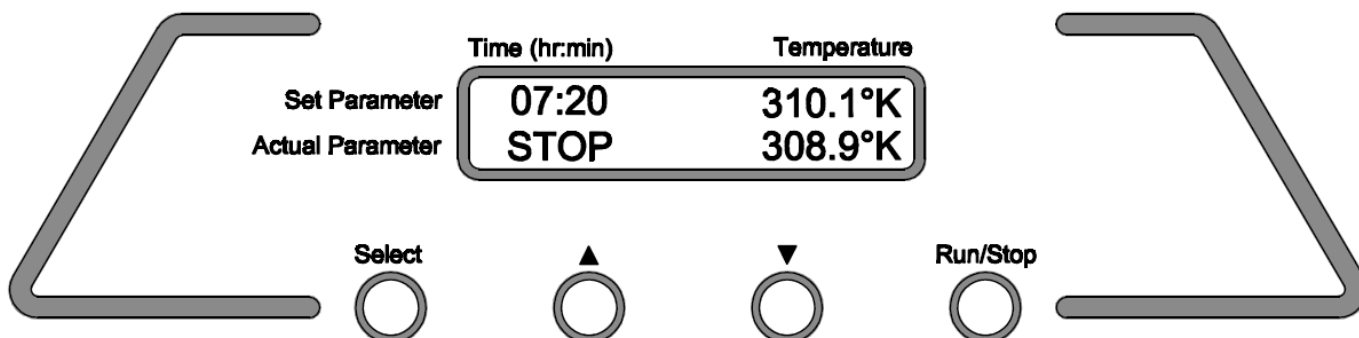

Fig. 5 Main menu
- Unit will display selected temperature unit in main menu (Fig.5) (under **Set parameter & Actual parameter**).